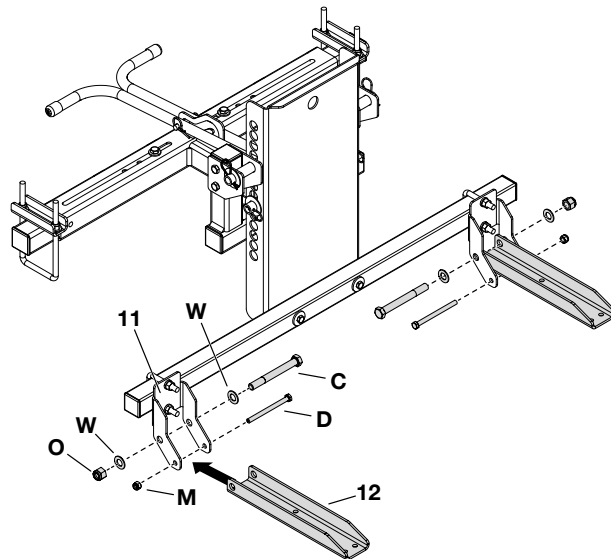

Figure 10
STEP 10: (SEE FIGURE 10)
- Attach the two lift brackets (12) to the two mounting brackets (11) with the two bolts (C) above the two bolts (D).
- Secure the two hex bolts (C) with the four washers (W) and two Nylock hex nuts (O).
- Secure the two hex bolts (D) with two Nylock hex nuts (M).